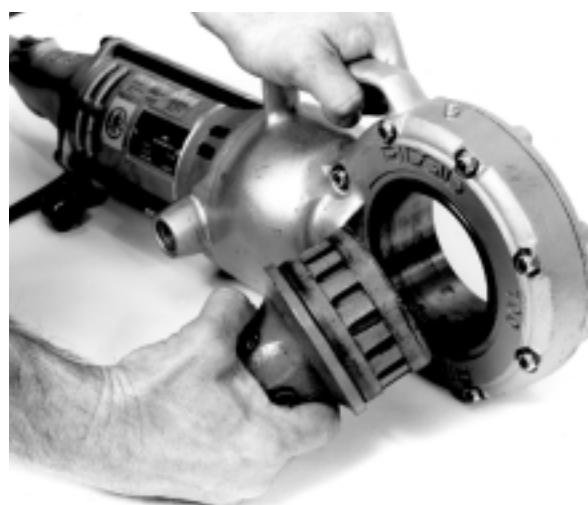

Figure 4 – Installing 774 Drive Adapter
- a. Push 774 Square Drive Adapter, spline end first, squarely into power drive face gear until spring loaded adapter pawls catch securely (*Figure 4*).